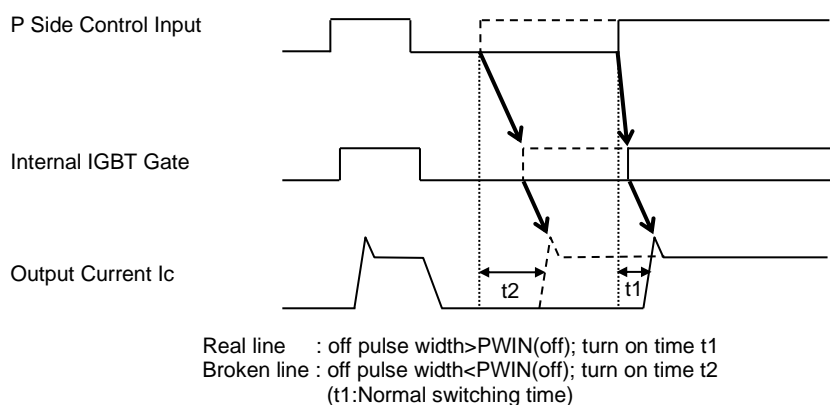

Fig.3-1-7 Delayed response of output operation with inputting less than PWIN(OFF) for P-side
- (1) Input signal with ON pulse width less than PWIN(on) might make no response.
- (2) IPM might make no response or delayed response for the input OFF signal with pulse width less than PWIN(off). (Delay occurs for p-side only.) Please refer the following Fig.3-1-7 of delayed response.